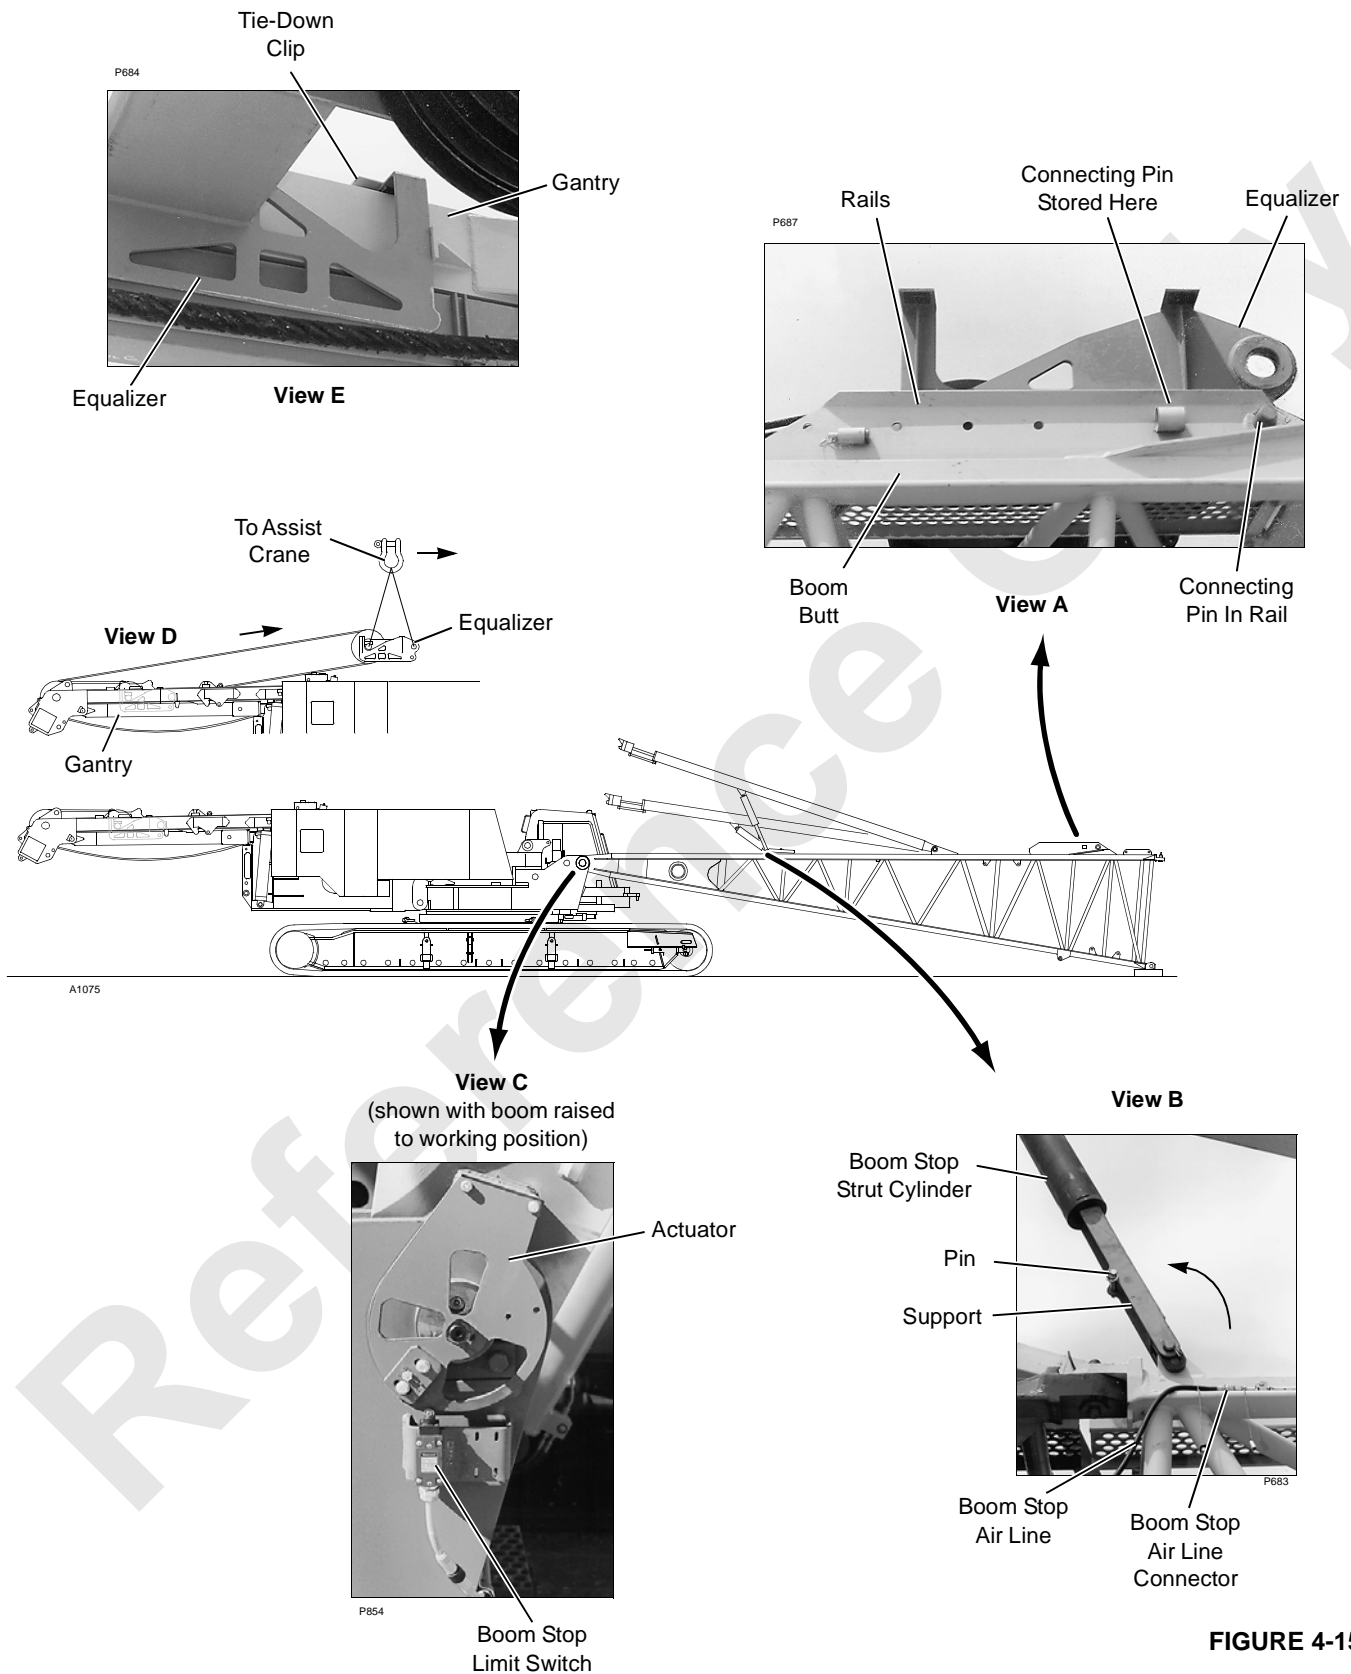

FIGURE 4-15
4. Join air line quick-couplers on boom butt to provide air supply to boom stop cylinders (Figure 4-15, View B).
5. Swing supports for boom stop strut cylinders up to operating position. Pin in place (Figure 4-15, View B).
6. Install boom stop actuator (Figure 4-15, View C). See Boom Stop Limit Switch in Section 4 of the Crane Service Manual for installation and adjustment instructions.
2. Slowly lift and slide equalizer forward until it is clear of tie-down clips on gantry (Figure 4-15, View E).
3. Raise equalizer with assist crane while paying out boom hoist wire rope from 2250 (Figure 4-15, View D).
6. Lower equalizer onto rails and pin to holes in end of rails (Figure 4-15, View A).
2. Tighten lifting slings just enough to support equalizer and unpin equalizer from rails on boom butt (Figure 4-15, View A).
6. Lower equalizer onto gantry and slide equalizer under tie-down clips (Figure 4-15, View E).
2. Unpin and lower boom stop strut cylinder supports (Figure 4-15, View B) onto boom butt.
3. Disconnect boom stop air line from quick-coupler on right side of boom butt (Figure 4-15, View B). ***Boom stop tubes will lower when this step is performed.***